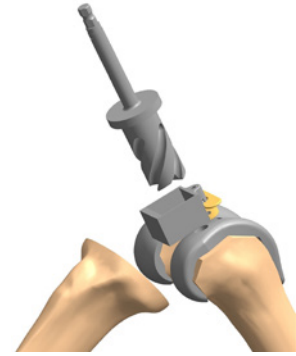

Figure 42
6. Insert the PS Box Reamer into the Resection Collet and ream until the reamer contacts the Collet (Figure 42). Ream in the posterior position first, then slide collet anterior and ream again.